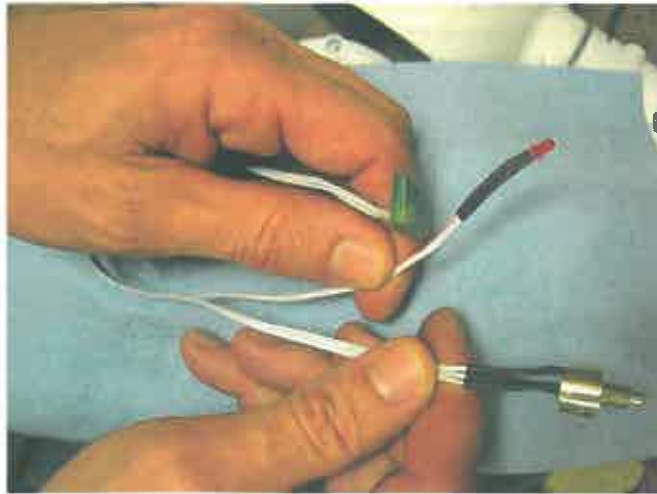

Fig. 6
18. Place the new AIR X or AIR BREEZE circuit next to the front of the body. Holding the ribbon cable, carefully separate the two LED wires, as a pair, from the potentiometer wires. Leave about 7" of ribbon cable intact (in the five wide form) from the circuit. See Fig. 6